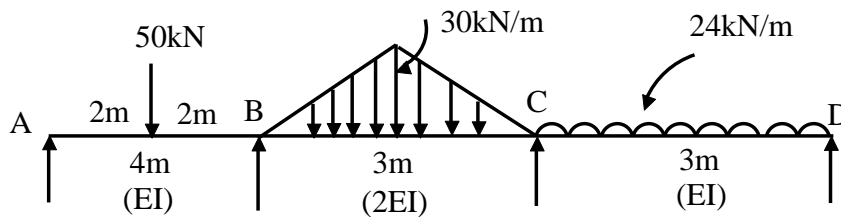

Fig:3
3. A beam is loaded as shown in fig : 3. Plot the bending moment diagram if the support A settles by 10 mm, B settles by 20 mm and C settles by 15 mm. Take $EI = 5100\text{kN.m}^2$. Use MDM. 13